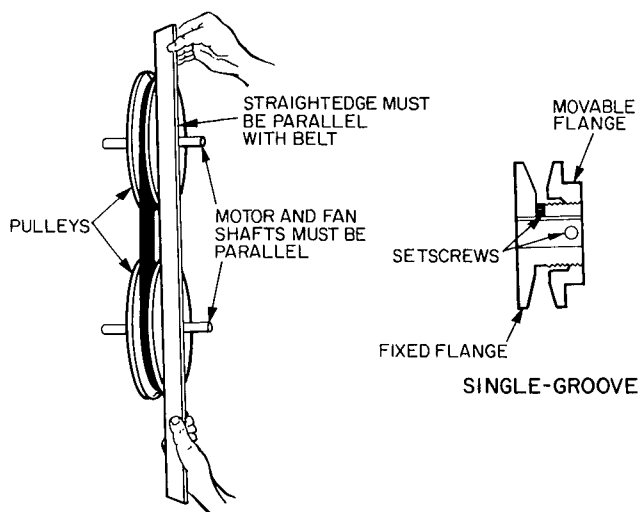

Fig. 29 — Evaporator-Fan Pulley Adjustment
3. Loosen movable pulley flange setscrew (see Fig. 29).